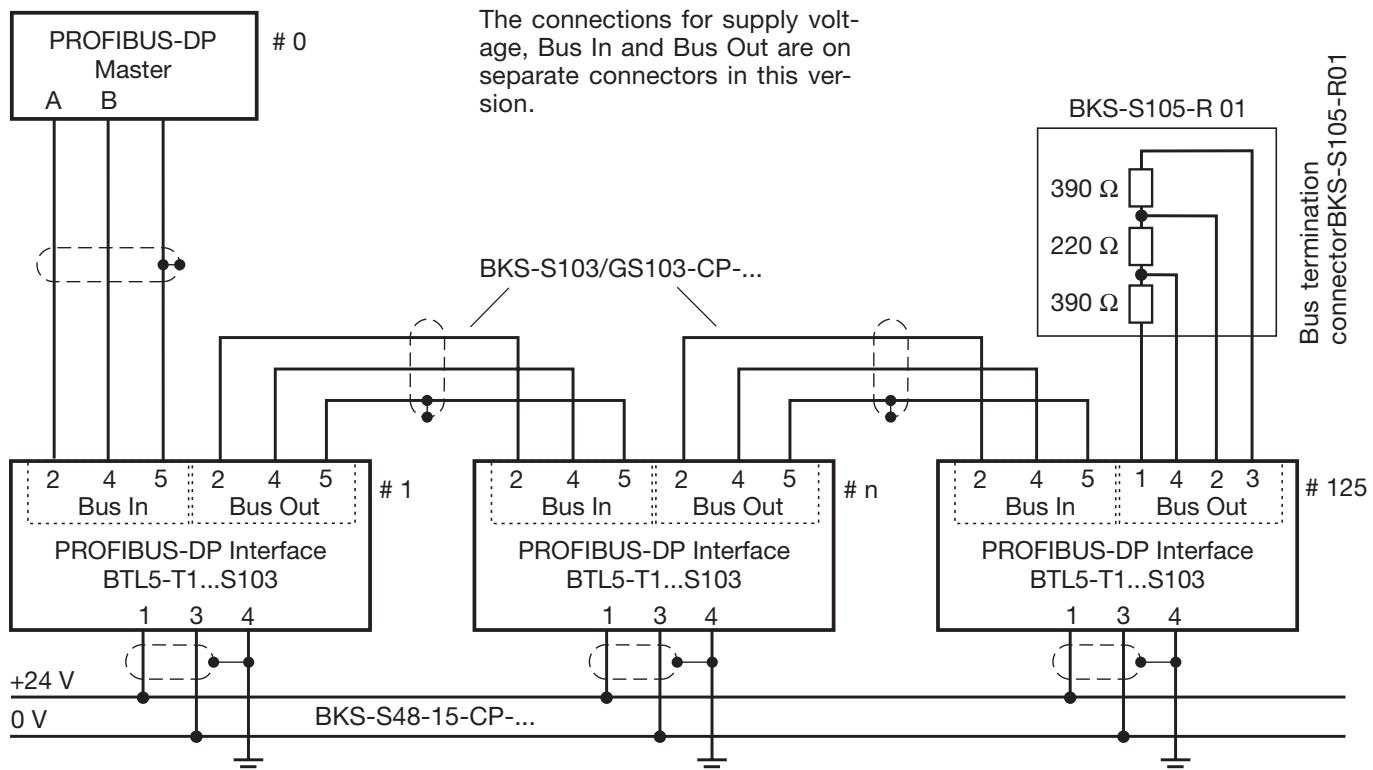
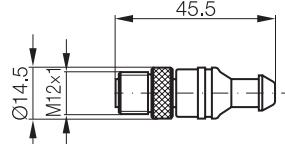
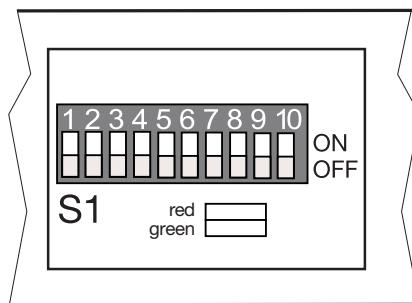

Fig. 4-2: BTL5-T1...S103 with processor/controller, shown with S103
Fig. 4-6: Bus termination resistor (resistors built-in)
Fig. 5-2: View A, DIP switch S1 for setting station address and termination resistor
**► Fig. 4-2.**
To ensure a reliable rest signal level the bus must be appropriately terminated on both ends as shown in Fig. 4-2. The BTL5-T allows the bus to be terminated internally. To do this set DIP switches S1.9 and S1.10 to ON, ► Fig. 5-2. For IP 67 the bus termination resistor suggested in Fig. 4-6 must be used. Then the internal bus termination should not be activated (S1.9 and S1.10 OFF)! Stub lines should be avoided whenever possible.